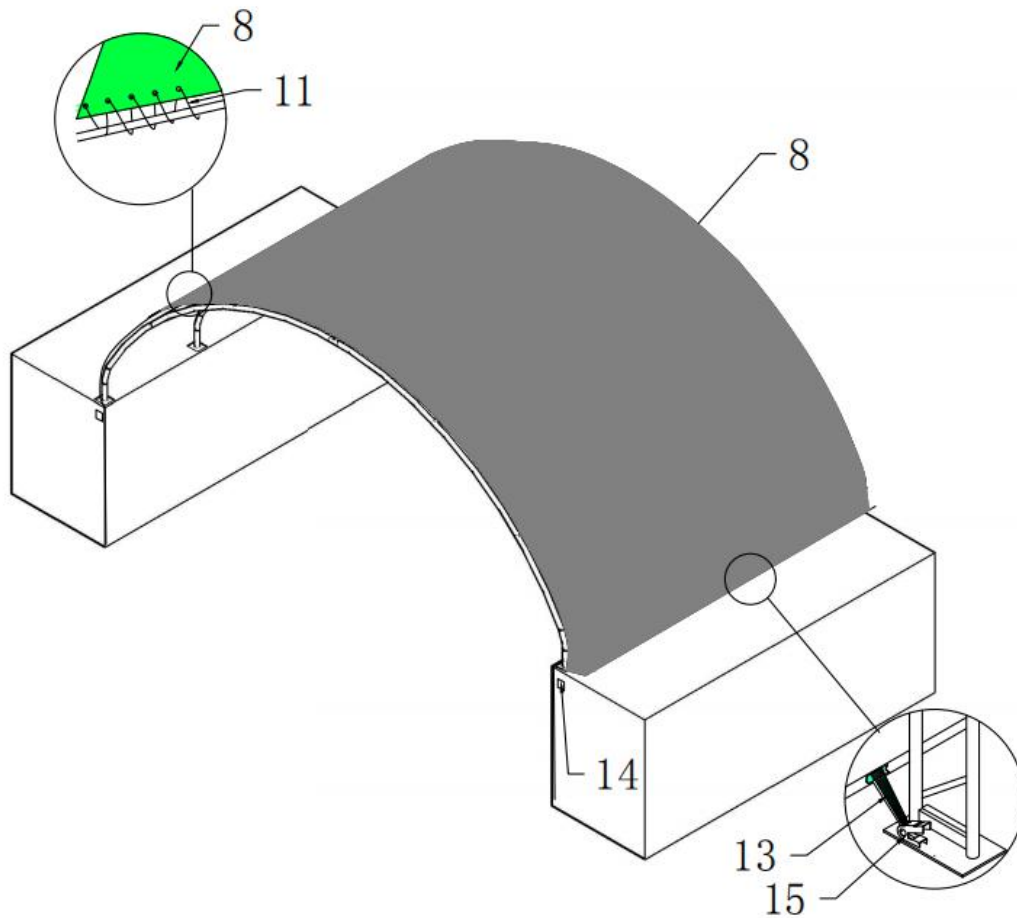

Figure 3
3. Cut 6 pockets according to the position of the base plates and put the Lower tensioning tubes for roof cover (part code 7) into the pocket of roof cover. Then use the Ratchet straps (part code 13) to tie down the Lower tensioning tubes like the Figure 3. Finally install the ϕ 32 Plastic plug (part code 12) for all the ends of steel tubes.